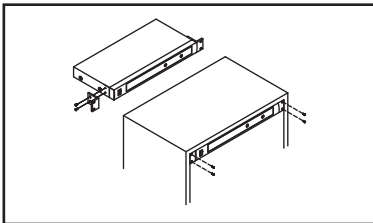

Fig. 4
- (A) Can be installed into an EIA-standard 1U Rack and fasten with optional rackmount kit, Fig. 4.